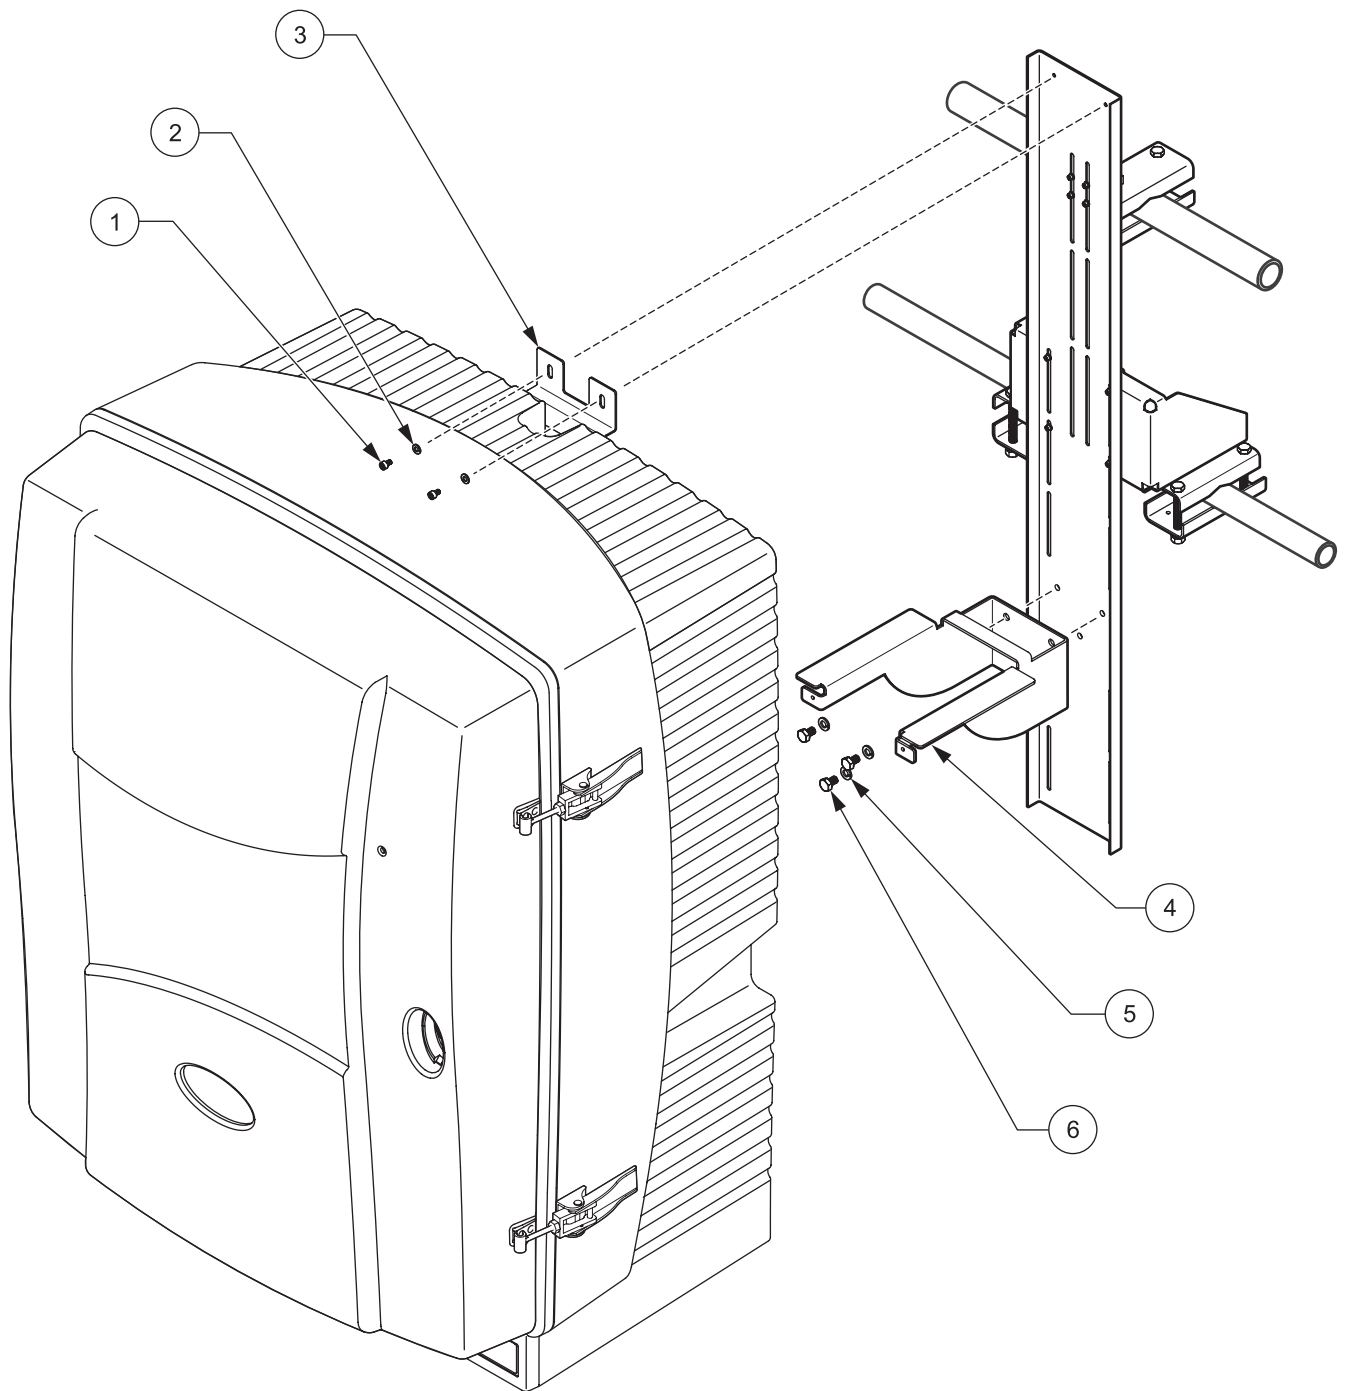

Figure 11 Installing the analyzer on the mounting rail
6. Screw the top angle bracket (supplied with the analyzer) to the analyzer (see Figure 11 on page 11 and the Installation section of the analyzer manual).
7. Attach the fastening bracket (supplied with the analyzer) to the mounting rail using the three M8 x 12 screws and spring washers (see Figure 11 on page 11 and the Installation section of the analyzer manual).
10. Screw the top angle bracket (supplied with the analyzer) on the analyzer to the mounting rail (see Figure 11 on page 11).